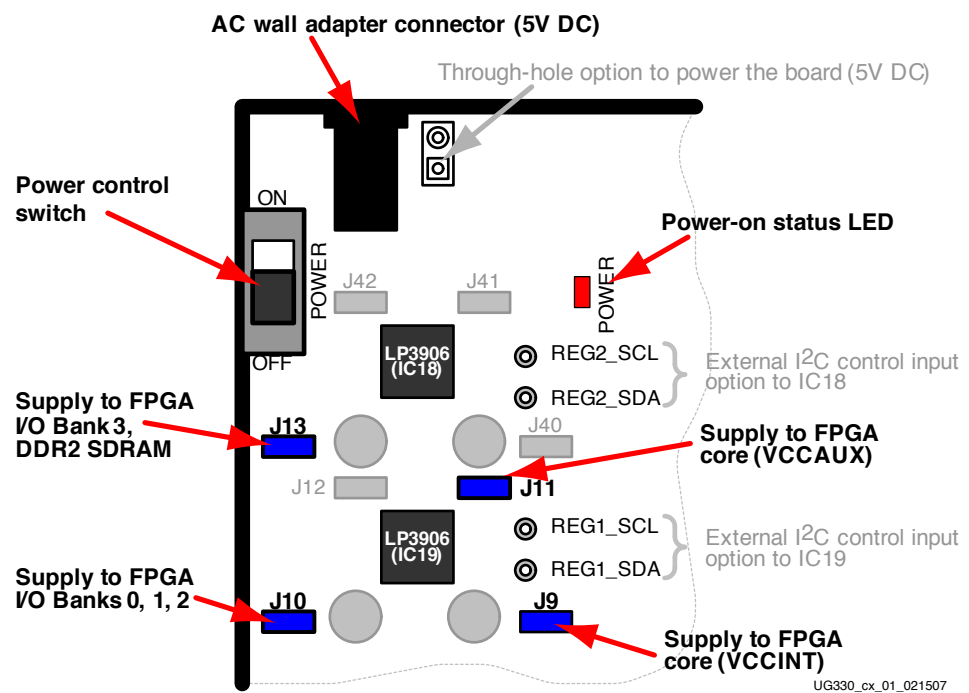

Figure 17-1: Spartan-3A/3AN Starter Kit Board Voltage Supplies
The voltage supplies are located in the upper left corner of the board, as shown in Figure 17-1.
All regulator output supplies have an associated series jumper, as indicated in Table 17-1 and shown in Figure 17-1. This allows for simple and easy current monitoring using just a multimeter.
- Remove the series jumper associated with the supply to be measured, shown in Table 17-2. Locate jumper indicated in Figure 17-1.
Each LP3906 regulator has an two-wire, I²C serial interface that optionally controls various functions, such as the regulator output voltage. As indicated in Table 17-3, the I²C interface can be controlled by the FPGA application using the I/O pins indicated or by some external controller using the through-hole mounting pads provided on the board, shown in Figure 17-1.